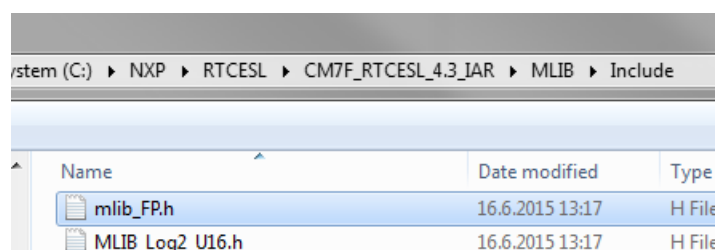

Figure 1-45. Add Files dialog
5. Navigate into the library installation folder C:\NXP\RTCESL\CM7F_RTCESL_4.5_IAR\MLIB\Include, and select the *mllib_FP.h* file. (If the file does not appear, set the file-type filter to Source Files.) Click Open. See Figure 1-45.